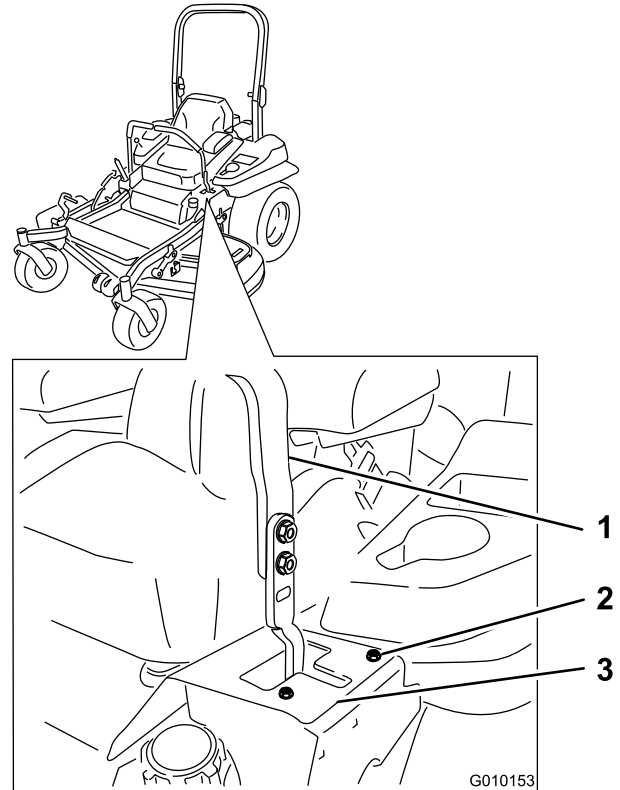

Figure 60
- If it tracks to the right, loosen the bolts and adjust the left stop plate rearward on the left T-slot until the machine tracks straight (Figure 60).
right T-slot until the machine tracks straight (Figure 60).
- Tighten the stop plate (Figure 60).